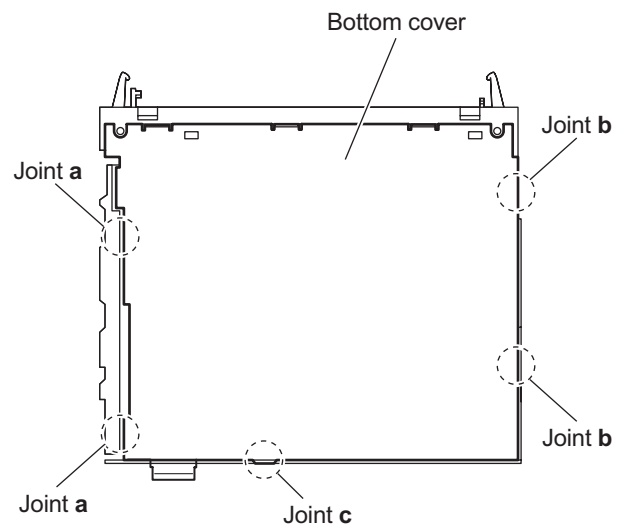

Fig.5
3.1.4 Removing the bottom cover (See Figs.5)